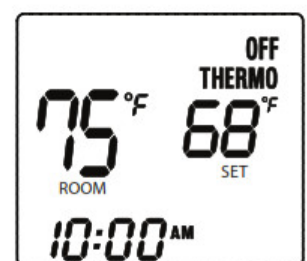

Fig. 6 Thermo Mode
Step 2: Press the **MODE** button a second time to put the system in **THERMO** mode (Fig. 6).